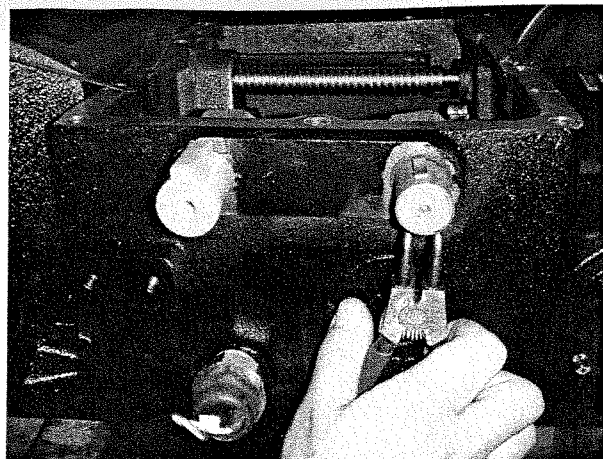

Fig 2-18
(6) Remove the snap ring on the outer end of rotary rod using calipers, and take it off (Fig 2-18).